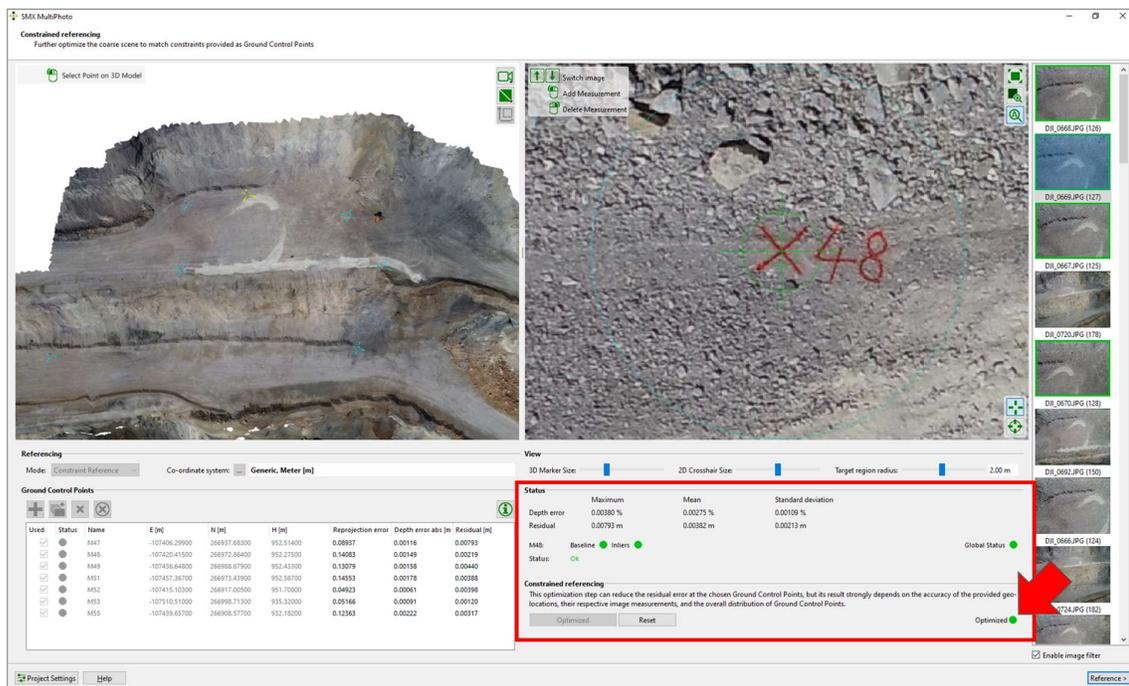

Figure 34: GCP positions and optimized error statistics
- Check the *Status Information* (green status signals) and enable referencing by clicking the “Run”  button. The *Optimized* signal turn into green (Figure 34).